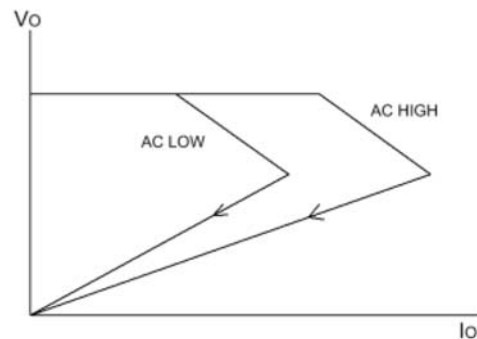

Figure 9. Current-mode control
**Overload protection (OLP)** Figure 9 shows output characteristics of the secondary side when the OCP circuit is activated due to an overload at the secondary side output. When the output voltage drops in an overload mode, the bias winding voltage of the primary side drops proportionally, and the VCC pin voltage drops below the Operation-Stop voltage to deactivate the IC. Then the circuit current decreases, and the VCC pin voltage rises again by way of the start-up resistor (R2) charge current to reactivate the IC intermittently at the Operation-Start voltage. However, where the transformer has multiple output windings and coupling is not good enough, the intermittent operation might not be sensed even if the output voltage drops in an overload mode, because the primary bias winding voltage would not drop. Although the intermittent operation is not realized, protection might still be by means of the OLP activation.